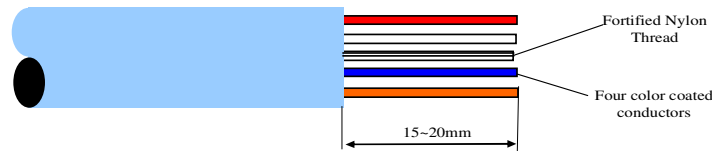

Figure 8.11 – Strip outer sheath
2. Starting 15 mm ~ 20 mm from the end, make a straight slice through the outer sheath only, as shown in Figure 8.11 below.